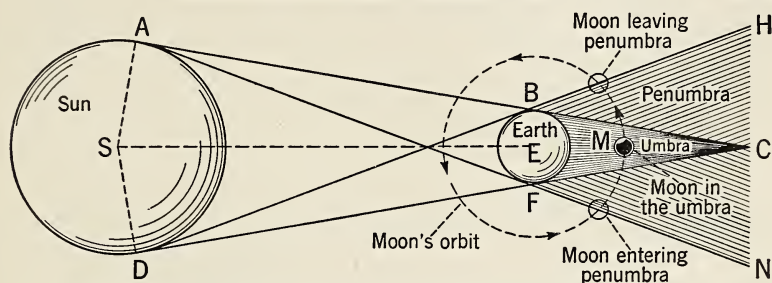

FIG. 3-12. An eclipse of the moon can occur only when the moon is full or nearly so.
87. How are eclipses caused? Let us study Figure 3-12 to see how an eclipse may be produced. The circles S, E, and M represent the sun, earth, and moon respectively. Light